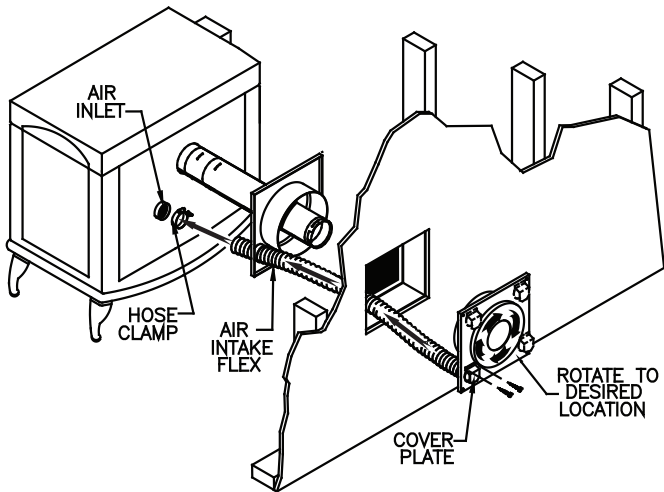
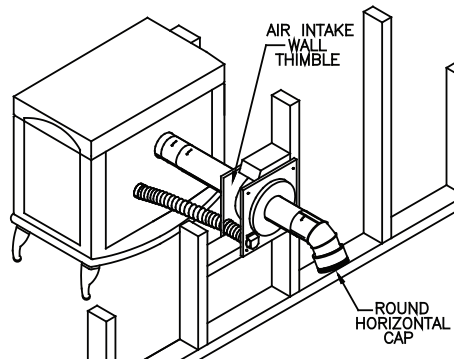

Figure 12
Figure 13
halves of the Wall Thimble onto Pipe Section. Connect the flexible hose with clamp to the exterior half of the Wall Thimble. Guide the flex through the opening in black interior half of Wall Thimble, gently pull the flex towards appliance (**Figure 12**), and if necessary trim excess flex to required length with snips. Secure flex to combustion air inlet of the stove with clamp provided. Only connect metal flex to the appliance; do not substitute or install plastic flex. The cover plate comes installed on the lower left corner of the thimble with intake guard pointing downward to deflect rain. If it is desired to rotate thimble and air inlet to another corner, remove the (2) screws on the inlet guard and re-attach over air inlet at new location. Secure black interior half of the Wall Thimble to the interior wall, and the unpainted exterior half are to be secured to the exterior wall on both styles of thimbles (**Figure 13**). The Wall Thimbles adjust to fit walls from 4"-8" thick. For installation in thicker walls an extension tube may be field fabricated.
5. If the flue exit is on back of the stove, and a horizontal through-the-wall installation is desired (**Figure 13**):